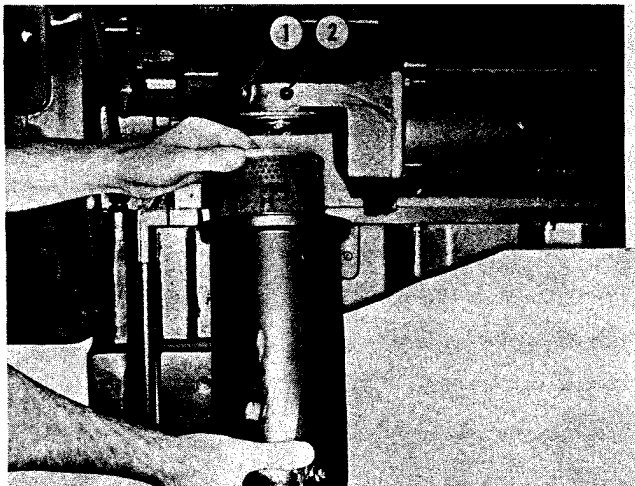

Fig. 2-3, (V51908). Location of oil filter check points
d. If element is clogged, the change period should be shortened. Oil pressure drop reading across filter is the best way to determine change periods. Pressure drop from inlet (1, Fig. 2-3) to outlet side (2) of filter should not exceed 10 psi [0.70 kg/sq cm] with 140 deg. F [60 deg. C] oil and engine at high-idle speed.